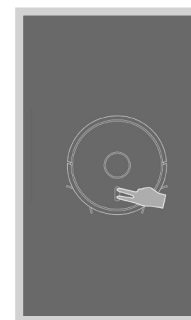

Fig. 6
2. Make sure that the appliance is in standby mode before starting the connection. Press both buttons (Fig. 6) at the same time for at least 3 seconds until the robot starts flashing and you hear the “Wi-Fi lost, please follow the App instruction for reconnection” voice message. Make sure your phone is connected to the same Wi-Fi network you want